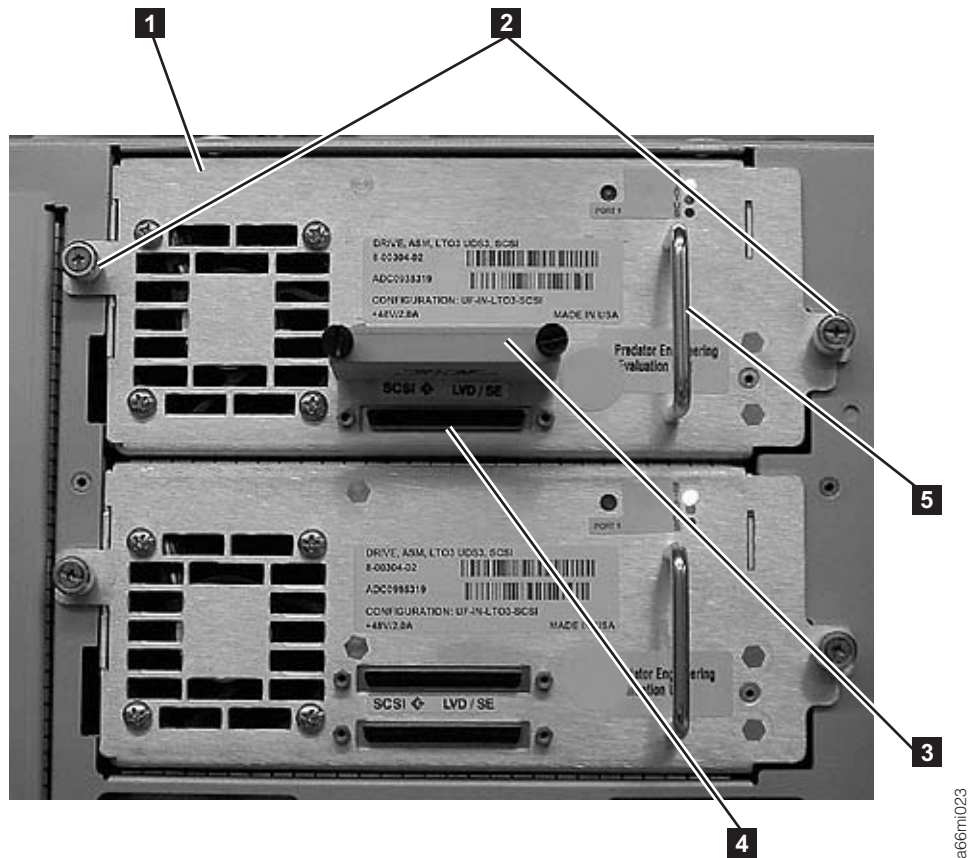

Figure 11-5. Control Module with two Drive Sleds
- b. When the drive sled is in place (**1** in Figure 11-5 on page 11-7), tighten the thumb screws (**2** in Figure 11-5 on page 11-7) by turning them clockwise to secure the drive to the module.
- c. Connect the host interface cables to the drive. In the example configuration shown in Figure 11-5, the bottommost SCSI connector (**4** in Figure 11-5) is being used to link the module to the host and the SCSI bus terminator is plugged in to the topmost connector (**3** in Figure 11-5).